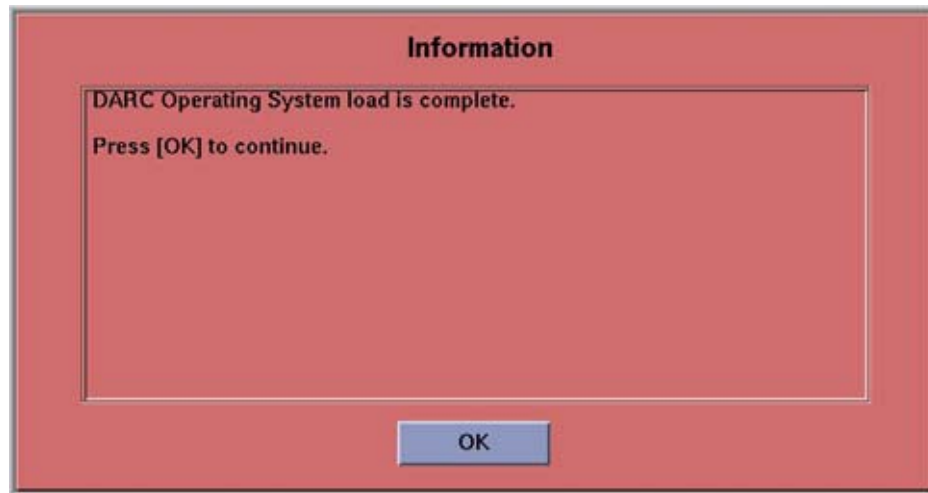

Figure 2-11 DARC OS Load Complete Pop-up Window
- 8.) The DARC OS 'Load Window' should disappear when the load has completed successfully. An information window should appear. See Figure 2-11.